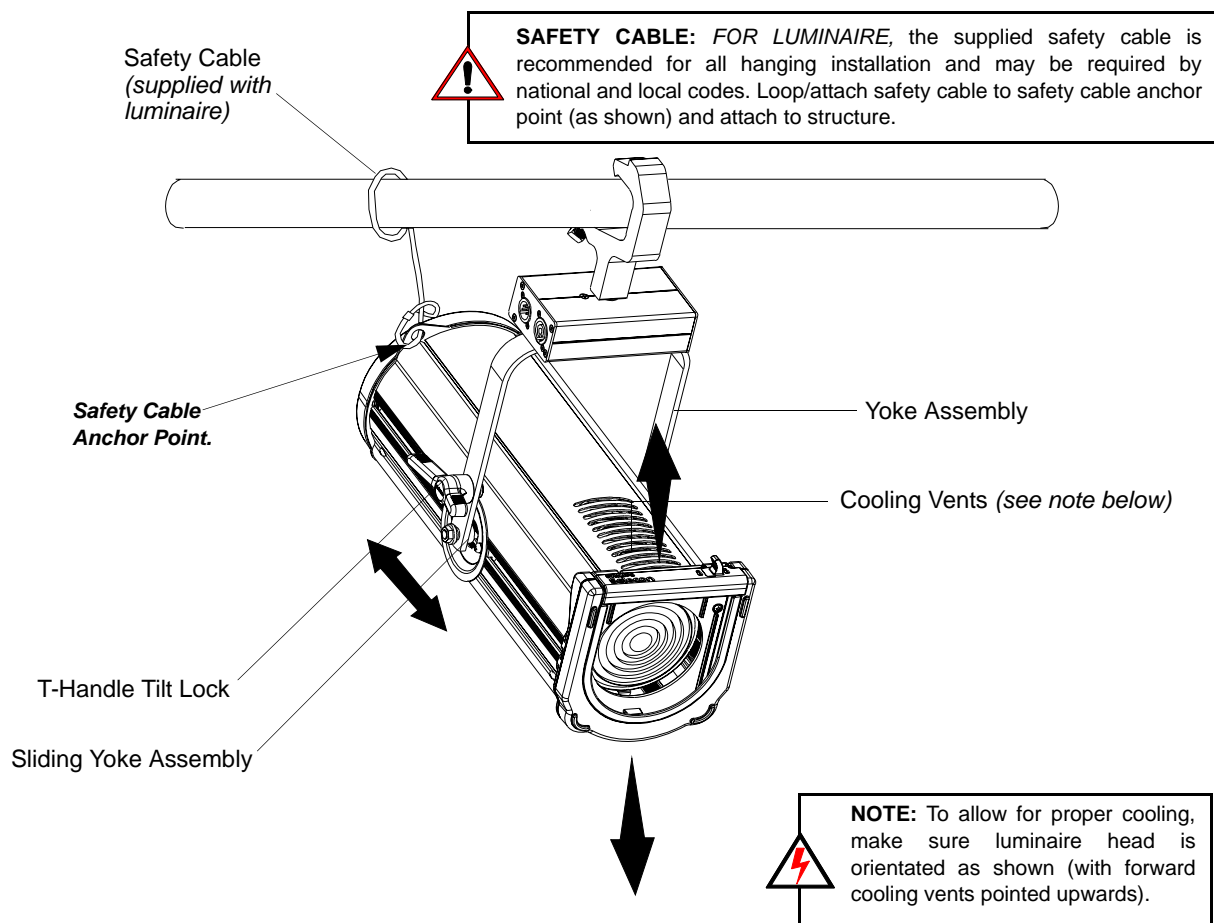

Figure 6: Luminaire Tilt Adjustment
The supplied safety cable **MUST** always be used when rigging luminaires on bars, truss, etc. (as shown in **Figure 6**). The supplied safety cable is recommended for all hanging installation and may be required by national and local
PLFRESNEL1 LED Luminaires offer variable tilt settings. The unit can be set at a specific angle (in relation to its mounting position) or at an angle between 0 to 90 degrees. When the yoke is in the position shown in **Figure 6**, you have full range access to shutters the gate etc. If you flip the yoke over some access is reduced but the over all volume the luminaire takes up is reduced. This is particularly useful in tightly hung lighting positions or in theatres with low grids.
- Step 2. Loosen, but do not remove, T-Handle Tilt Lock at base of yoke assembly as shown in **Figure 6**.